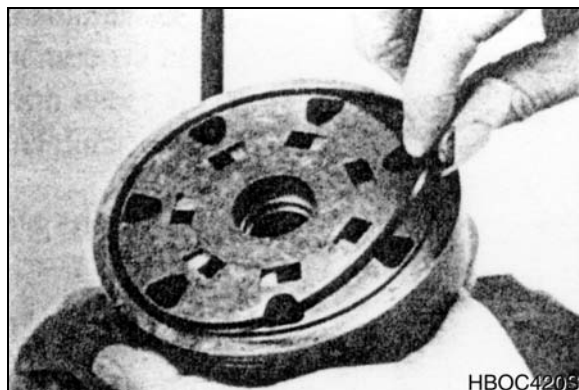

Figure 57
15. Apply clean grease to a new seal ring (4) and assemble it in the seal ring groove in the rotor set contact side of manifold (7). See Figure 57.